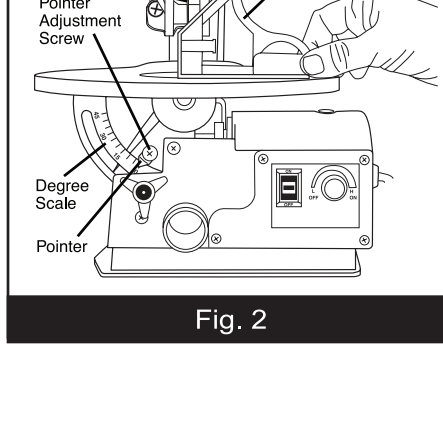

Fig. 2
- Place a small square on the table next to the blade as shown to check if the table is 90° to the blade. If adjustment is needed, raise or lower the table until table is approximately 90° to the blade and securely tighten the table lock knob. (Fig. 2)
- Loosen the screw holding the degree scale pointer, move pointer to the 0° mark and securely tighten screw. Remember, the degree scale is a convenient guide but should not be relied upon for precision. Make practice cuts in scrap pieces of wood to determine if your angle settings are correct. (Fig. 2)